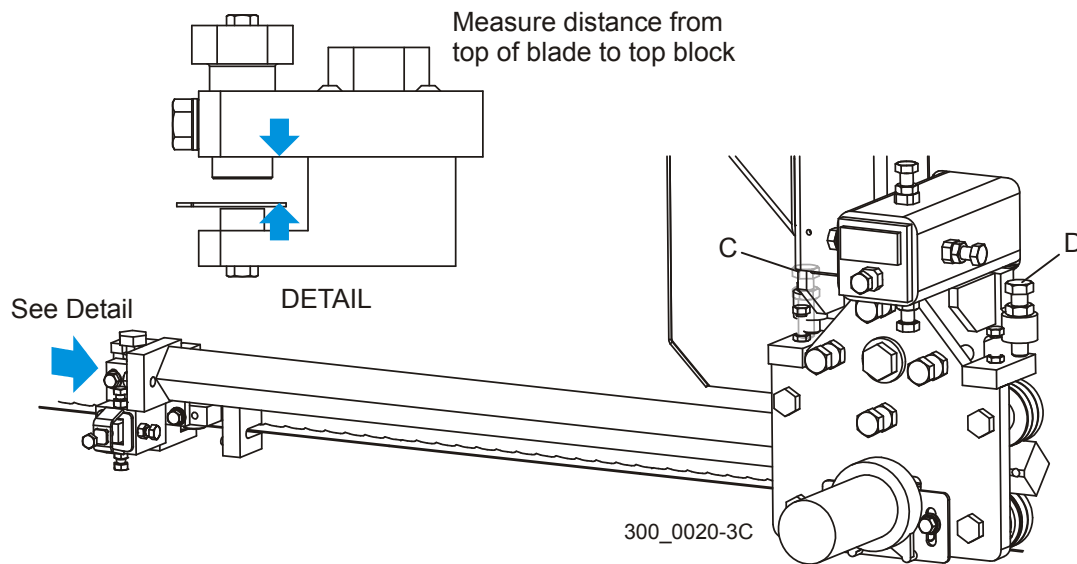

FIG. 7-14
See Figure 7-14. With the blade guide arm adjusted in near the inner blade guide, measure the distance from the top of the blade to the top blade guide block. Adjust the blade guide arm all the way out and measure again. If the two measurements are not equal with $1/32$ ", adjust the vertical tilt of the blade guide arm. To adjust the vertical tilt of the arm, adjust the bolts (C & D) on the blade guide arm mounting plate. Loosen the jam nuts. Adjust bolt (C) up and bolt (D) down to tilt the arm up. Adjust bolt (D) up and bolt (C) in to move the arm toward the blade. Recheck the distance from the blade to the top block at both ends of the arm. Readjust if necessary. Tighten the jam nuts.